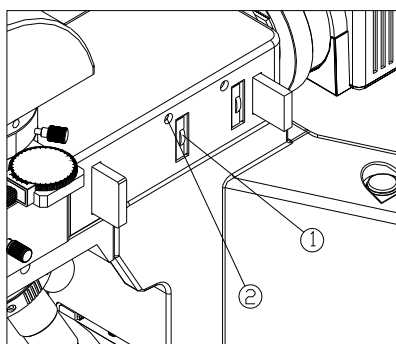
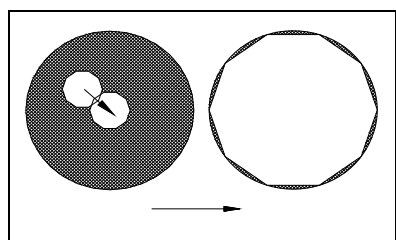

Fig.25
Fig.26
- (1) Turn the field diaphragm turntable ① to the lowest, to minimize the field diaphragm (See Fig. 25).
- (2) The image of field diaphragm can be observed in the view field through eyepiece.
- (3) Plug the two M4 hexa spanners into the left and right field diaphragm centering bolthole ②, until the image is adjusted to the center.
- (4) Open the field diaphragm gradually, if the image of field diaphragm is inscribed with the field of view, then the field diaphragm is centered correctly (See Fig. 26).
- (5) In actual use, enlarge the field diaphragm a little, to make its image circumscribed to the field of view.